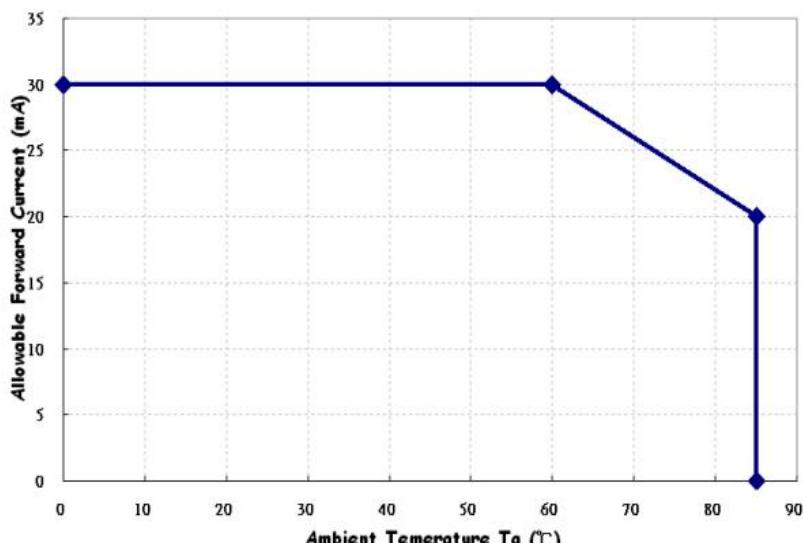

Figure 1. forward current vs ambient temperature
2. the max value of LED forward current is relative to ambient temperature, the correlation is show in figure 1.